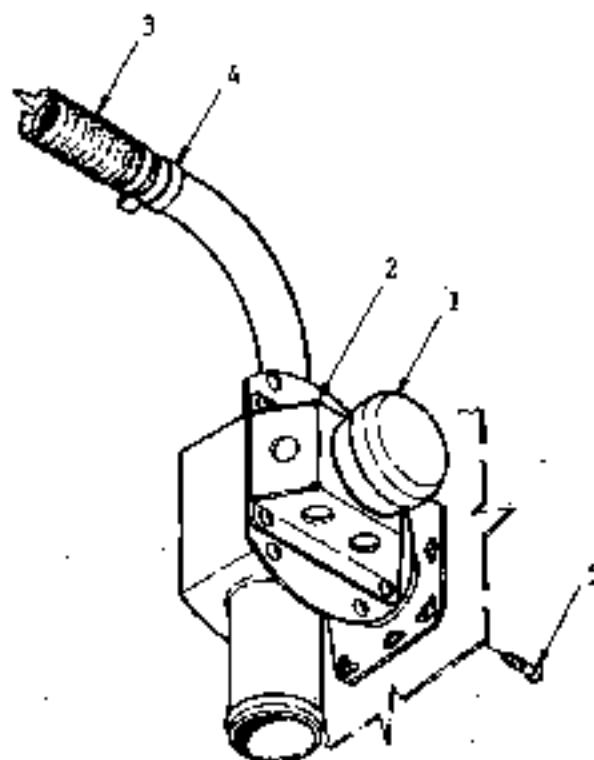

Fig. 8-6 Distributor valve
2.10.1 REMOVAL AND INSTALLATION (See Fig. 8-6)